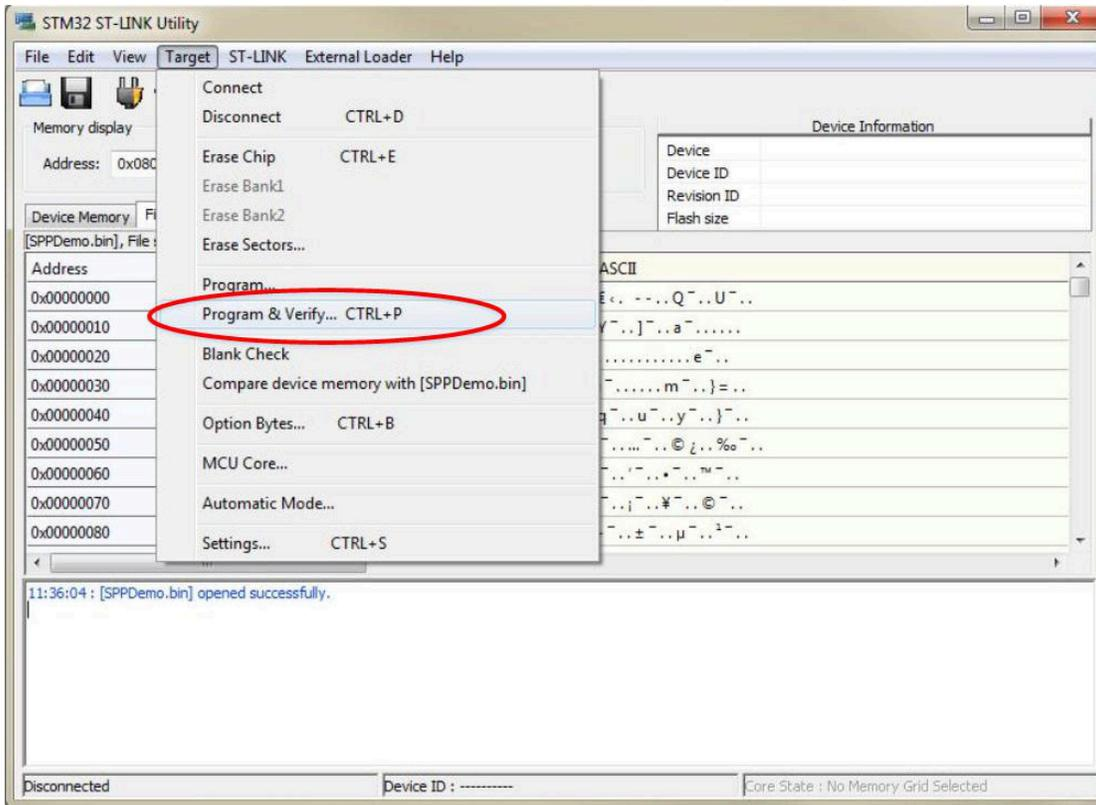

Figure 7-10. Program and Verify
4. Click *Program & Verify...* from the *Target* drop-down menu. (See Figure 7-10.)